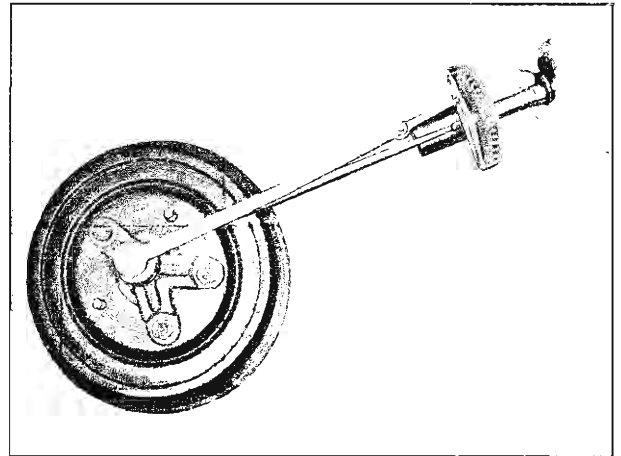

Fig. 51—Measuring Positraction Rotating Torque
2. Attach Adapter J-5748 to axle shaft flange and install a 1/2-13 bolt into adapter (fig. 51).